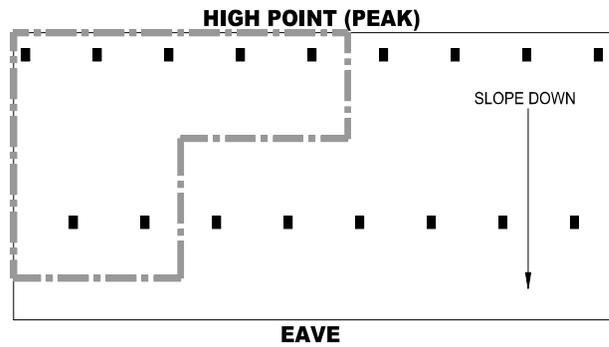

FIGURE 22C
- Calculation #2: Calculate the 7 most hydraulically contiguous DS sprinklers consisting of 5 DS at the high point (peak) and 2 DS sprinklers on the adjacent downslope branchline. See Figure 22C.